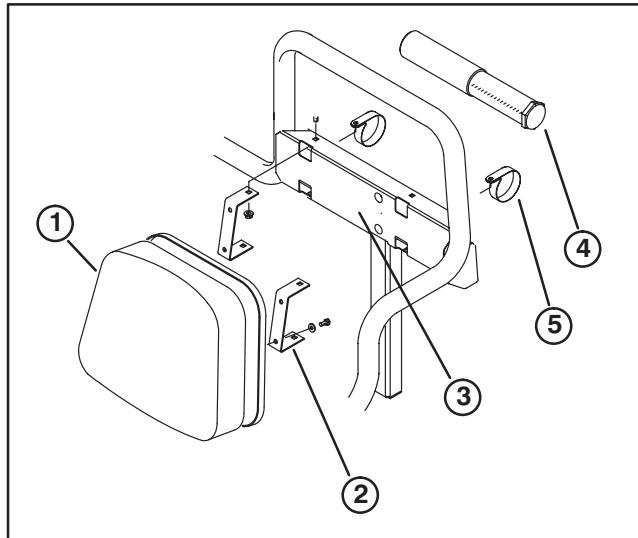

**Figure 7**
## INSTALL SEAT BACK CUSHIONS, MANUAL TUBE AND BED SUPPORT (Fig. 7 – 9)
1. Mount (2) seat back brackets to each seat back cushion with (4) 1/4–20 x 3/4" lg. capscrews and 1/4" flat washers. Position brackets on seat back cushions as shown in figure 7.